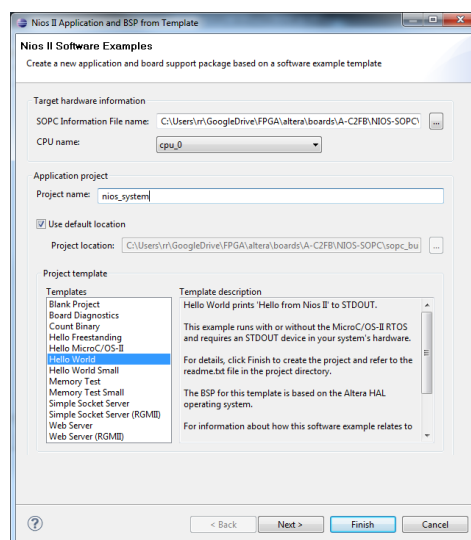

Figure 35. Our system name is "nios_system"
Step 4. Call your Eclipse Project "nios_system" (Figure 35).